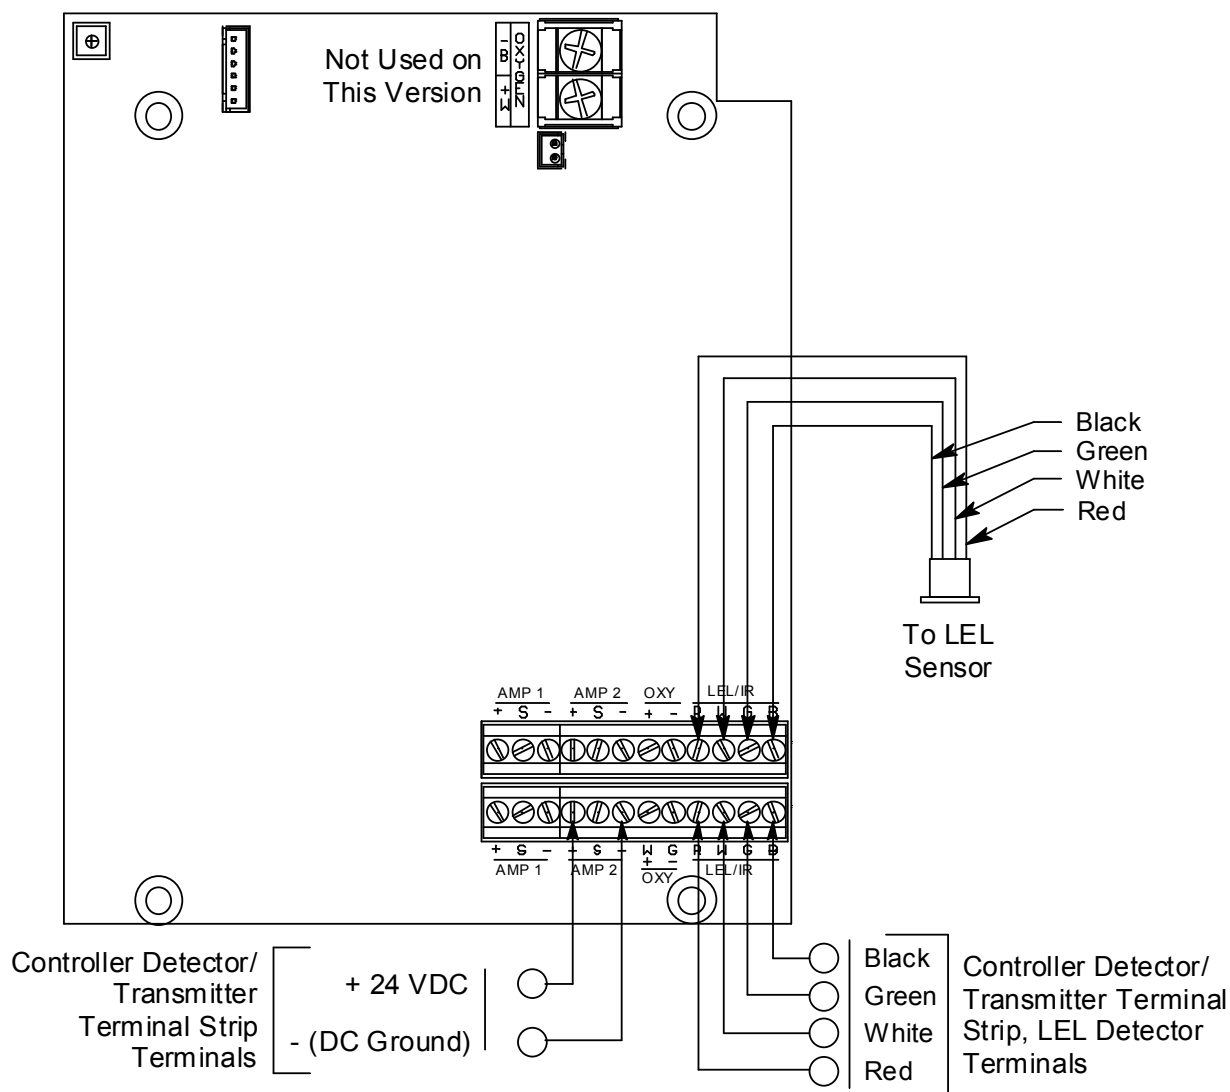

Figure 4: Wiring the Sample-Draw Detector to a Controller
5. Connect the cable to the sample-draw detector’s interconnect terminal strip as shown in Figure 4.
8. Connect the wires to the applicable detector/transmitter terminal strip at the controller as shown in Figure 4. Refer to the controller operator's manual and the controller detector head specification sheet for the 35-3001-01H-DIL for detector/terminal strip connections specific to the controller.